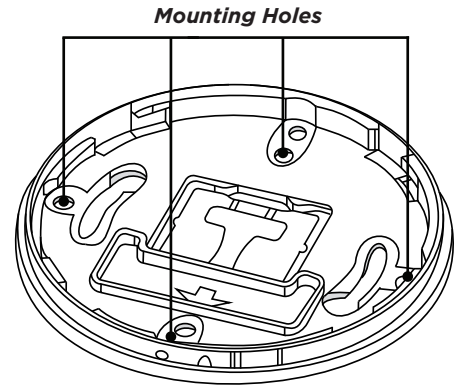

Figure 4: Mounting Hole Locations
2. Use the supplied screws to mount the base in place. See Figure 4 for mounting hole locations.